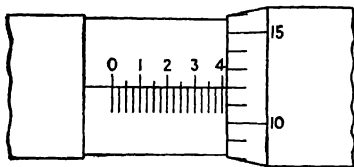
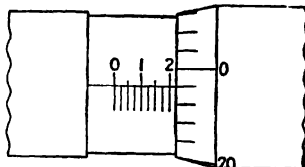
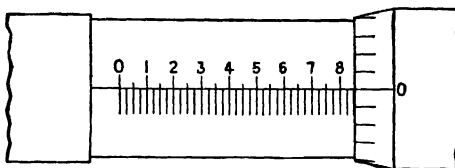

Fig. 3-28.
Fig. 3-29.
Fig. 3-30.
2. What is the reading in Fig. 3-28? Fig. 3-29? Fig. 3-30?